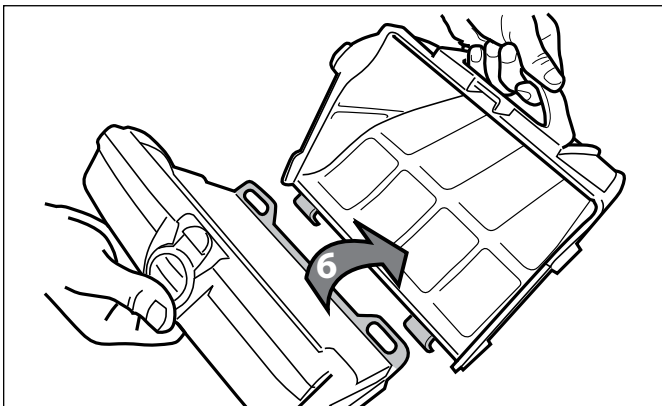

Figure 27. Remove Filter Canister
8. Separate the filter canister from the filter support (6), as shown in Figure 27.